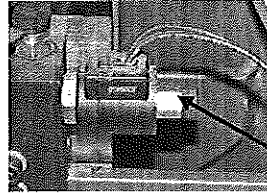

Figure 5
11. Install the black coil back onto the cartridge. Make sure that the coil is installed correctly, the coil wires should be up. See Figure 5.